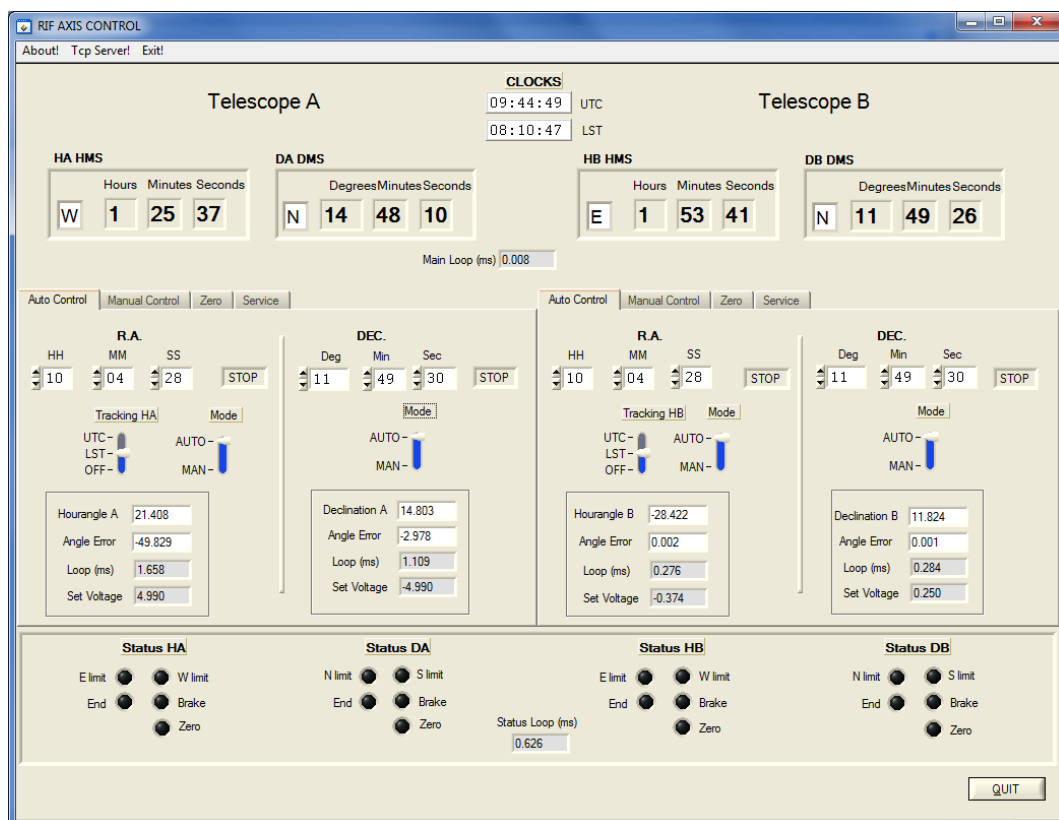

Figure 3: The Axis4 “Auto Control” tab.
- (a) **The HA value showed for each dish is not the right ascension (RA) of the dish, but the number of hours that the source is to the East or West of the great circle running from due North, through the zenith to due South. In other words, it tells you how many hours the source is away from passing through its maximum elevation.**
- (e) If the dish is already tracking a target there will not be a "GO TO" button but a "STOP" button next to where you enter the RA and DEC values (as is shown in Figure 3). In this case the dish will automatically move to your target as soon as you have entered the coordinates.